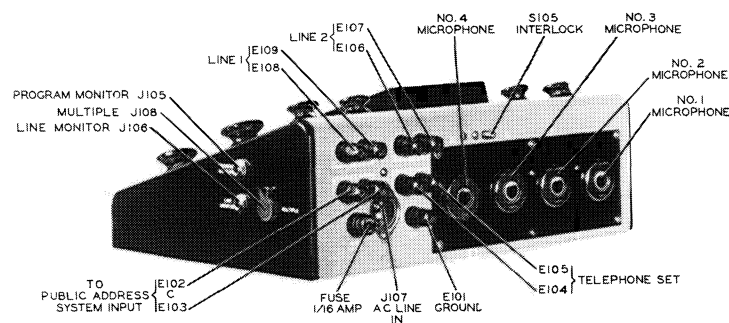

Figure 2-1. 212Z-1 Remote Amplifier, Connections
- g. Plug a headset into PROGRAM MONITOR jack, J105. (See figure 2-1.)
3.1.1 CONNECTIONS. Refer to figure 2-1.